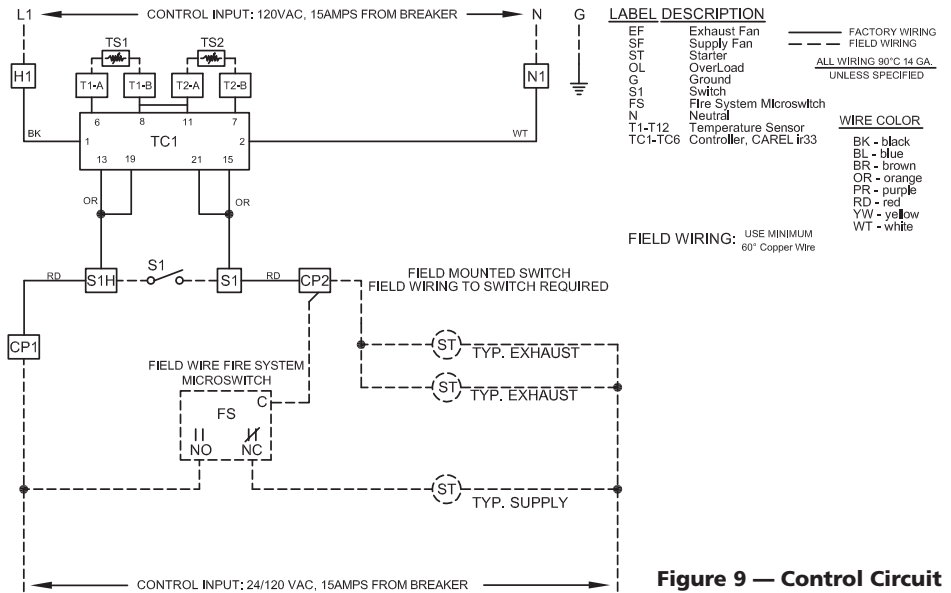

Figure 9 — Control Circuit
4. Install standard interlock control circuit connections, see Figure 9.